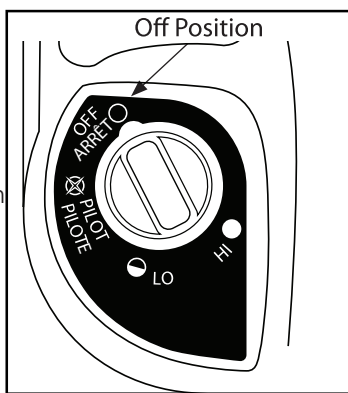

Figure 1: "Off" position.
1. Make sure four-position Control Knob is in "OFF" position; see Figure 1.
- Make sure four-position Control Knob is in "OFF" position; see Figure 1, at left.